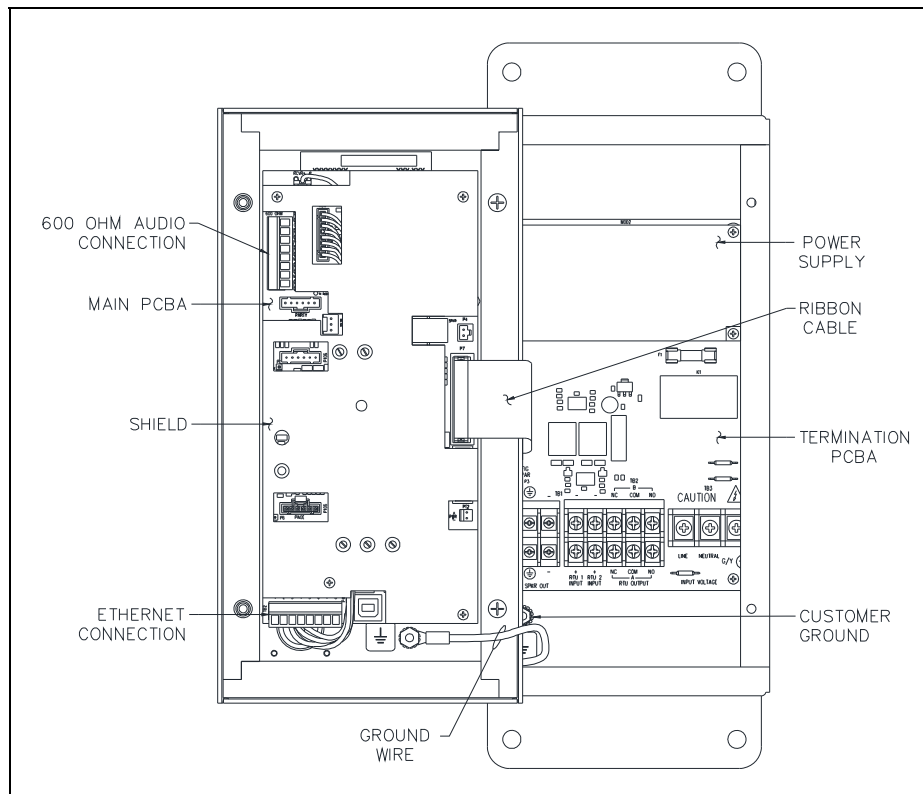

Figure 3. SP2 Station—Interior View
2. Secure it to the ground terminal located in the lower left corner at the back of the rear enclosure (see Figure 3).